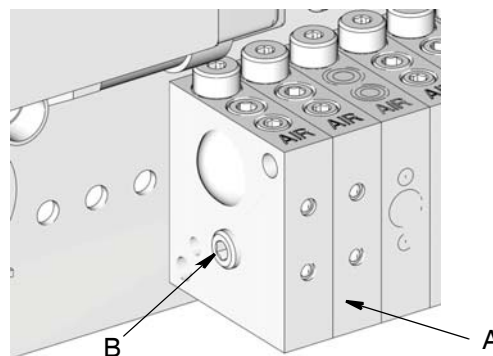

FIG. 1
1. On the Spindle Pump Assembly, loosen the purge plug (B) on the air/oil mixing block assembly (A) (FIG. 1).